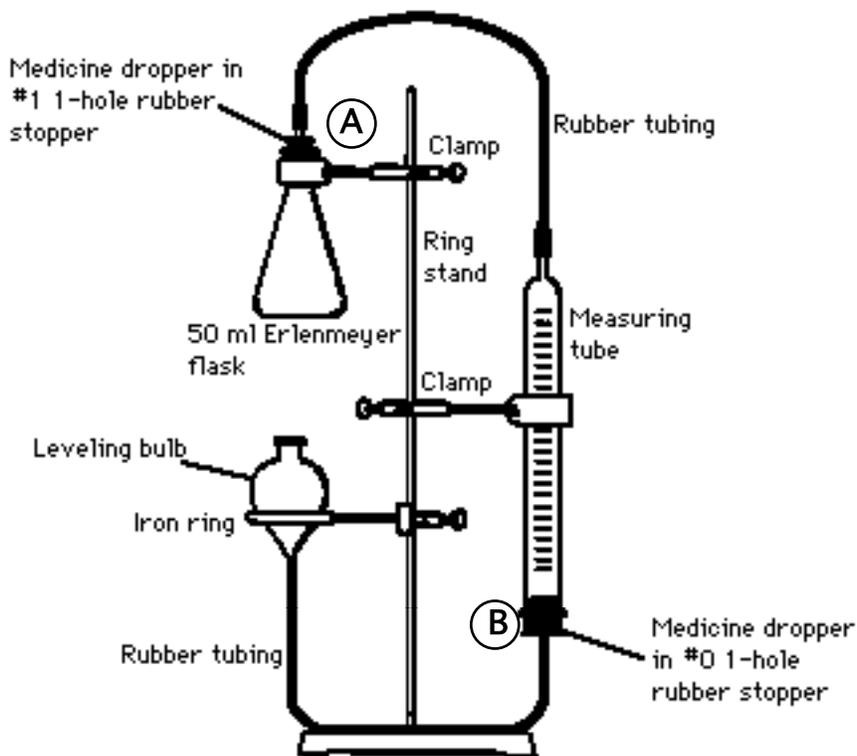

Figure 1. Apparatus for reaction of a mixture.
**PROCEDURE1:** (REFER TO FIGURE 1.)
Working with a partner you will use an apparatus similar to that shown in Figure 1. Weigh ~0.18 g of sulfamic acid,  $\text{HSO}_3\text{NH}_2$ , remove stopper A, and add the sulfamic acid to the given 50-mL Erlenmeyer flask. Add 10. mL of distilled water. **CAUTION: Sulfamic acid and sodium nitrite must never be mixed together as solids. In the presence of traces of water the solids react to evolve nitrogen and heat so rapidly as to be dangerous.**
Tip the 50-mL Erlenmeyer flask so that some mixing of the sulfamic acid solution with the solution inside the vial occurs. Gas evolution should begin. Over the course of the reaction, periodically lower the leveling bulb so that the water levels in the leveling bulb and measuring tube are approximately the same. This reduces the gas pressure in the system and helps prevent leaks. DO NOT allow the water level to go above the 50.00mL level in the measuring tube (see Figure 1). As gas evolution decreases, tip the Erlenmeyer flask more to achieve additional mixing. Continue to mix the solutions by gentle rocking of the flask until there is no further evolution of nitrogen gas. While waiting, ~ 5 minutes to allow the contents of the flask to return to room temperature, record the room temperature. A thermometer will be located at the front of the lab. Reference the chart provided in lab to determine the vapor pressure (partial pressure) of water, using your room temperature value. Record the barometric pressure that is posted in lab.